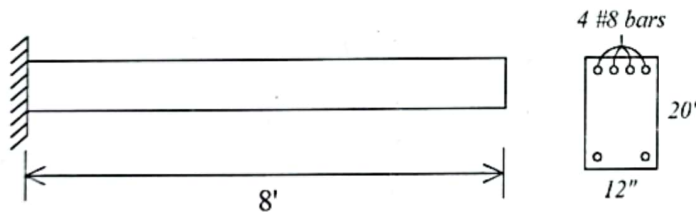

Fig. 2
2. A cantilever beam as shown in Fig. 2 has a length of 8'. It is reinforced with 4 #8 bars in tension zone (at top) and 2-#6 bars in compression zone (at bottom). Calculate its ultimate moment carrying capacity and represent it in terms of a UDL on this beam. Given: $f_y = 60,000$ psi and $f_c' = 4,000$ psi. (30) 2